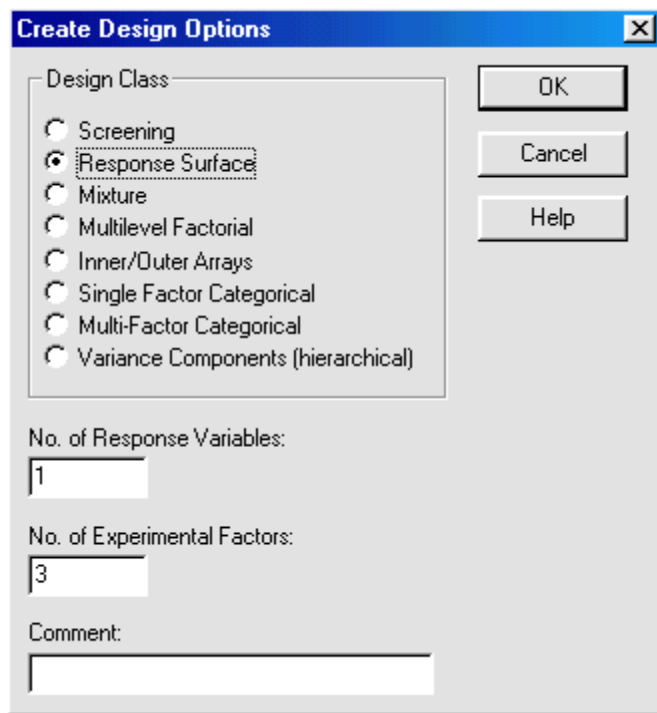

Figure 4-1. Create Design Options Dialog Box (Response Surface Designs)
1. Choose **SPECIAL... EXPERIMENTAL DESIGN... CREATE DESIGN...** from the Menu bar to display the Create Design Options dialog box shown in Figure 4-1.